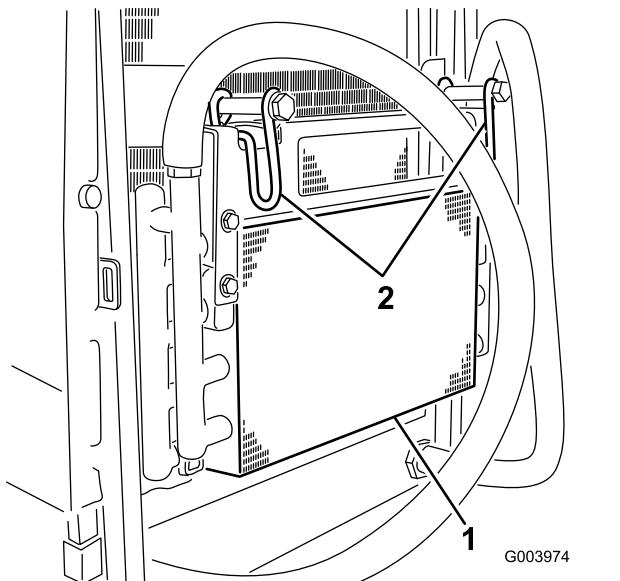

Figure 60
5. Pivot the latches inward to release the oil cooler (Figure 60).